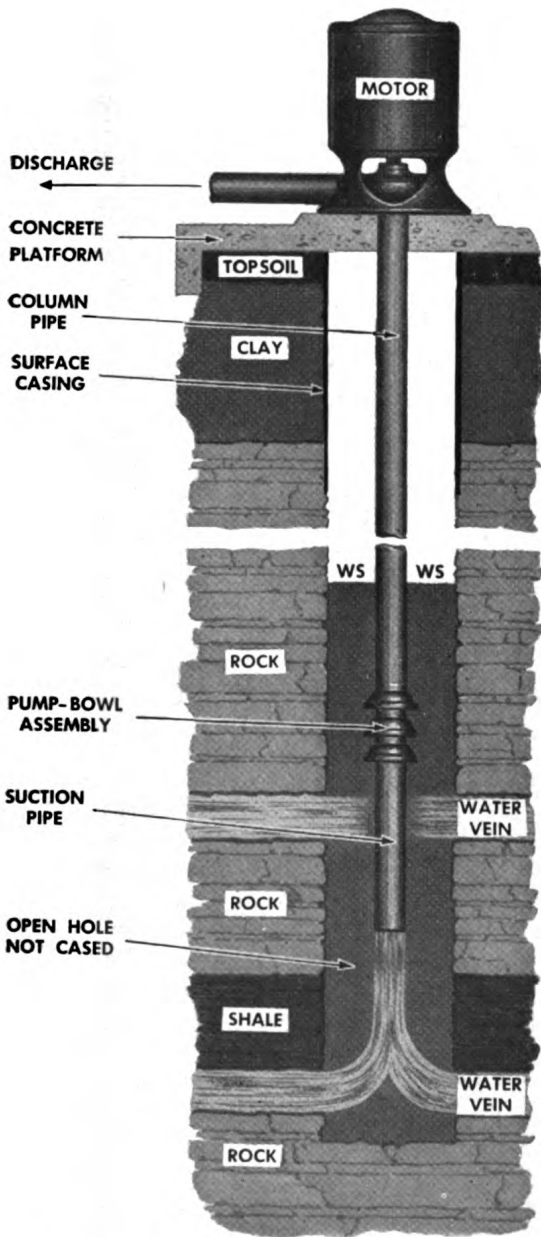

Figure 18. Straight-bored well, partially cased.
a. GENERAL. Straight-bored wells (figs. 18 and 19) have a straight hole, usually drilled with cable tools. Water is secured from a broken formation or from rock, usually sandstone. Water-bearing strata need not be cased in all instances. These wells are easily maintained and long-lived. Failure may be caused by collapse of casing, caving where well is not completely cased, constant lowering of water level by overpumping, corrosion of screen or slots in casing, clogging of screen openings by silt or clay washing down around screen from top formation, and depletion of water stored in the aquifer.